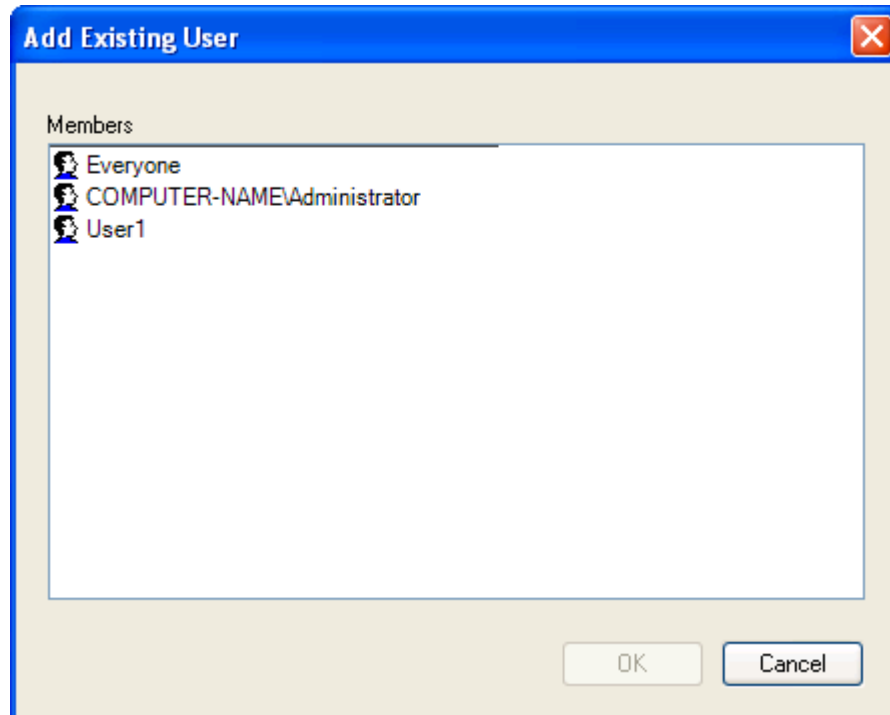

Figure 86 - Add Existing User Window
1. Click on the **Add** button. The **Add Existing User** window (Figure 86) appears.